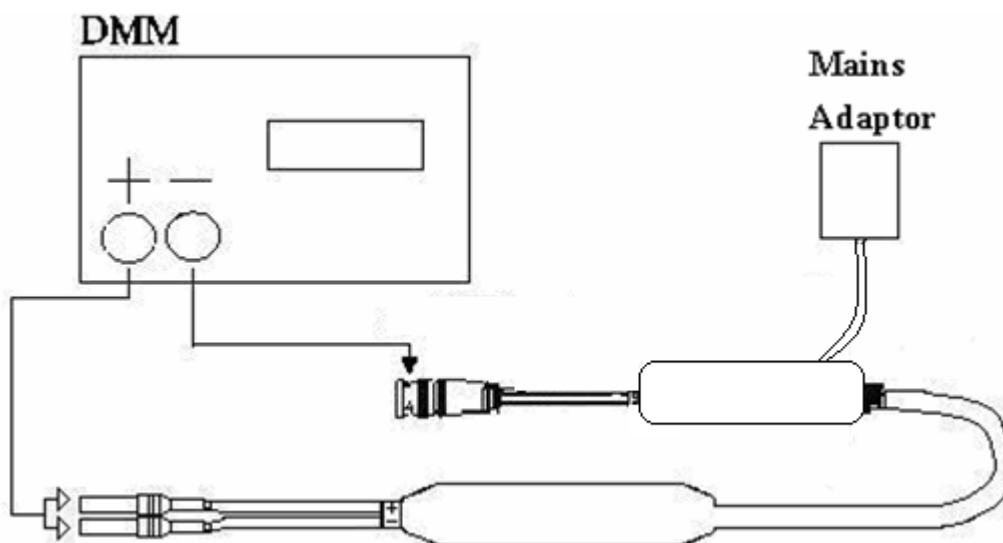

Fig. 3
- B-1. Connect the probe as shown in figure 3.